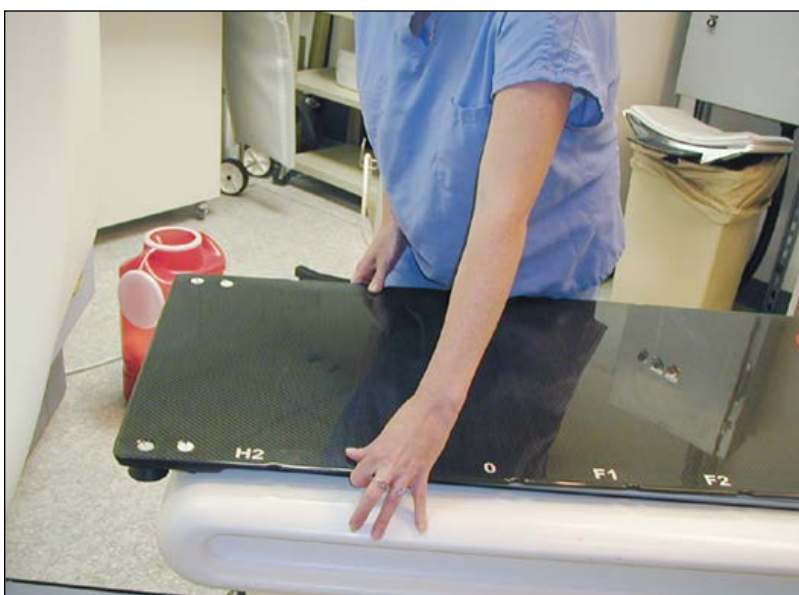

Fig. 51
4. Set the CT Overlay on Canon CT cradle with the head of the CT Insert 3 in. forward of the final position and centered on the Canon CT cradle (Fig. 51).